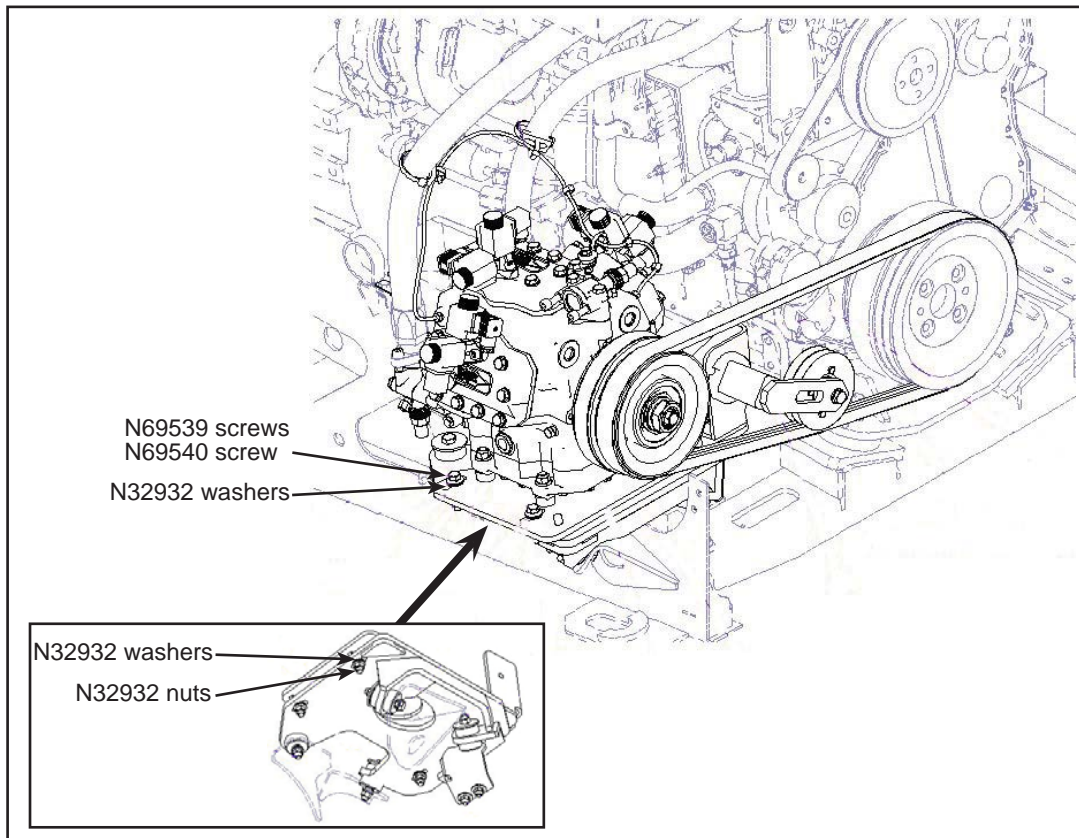

Figure 6 - New Hardware Installation
- 2.2. Install new hardware N69539 M12x50 class 10.9 screws (3x), N69540 M12x60 class 10.9 screws (1x), N69378 M12 class 10.9 nuts (4x) and N32932 M12 Nordlock washers (8x). See Figure 6. Hand tighten the hardware.